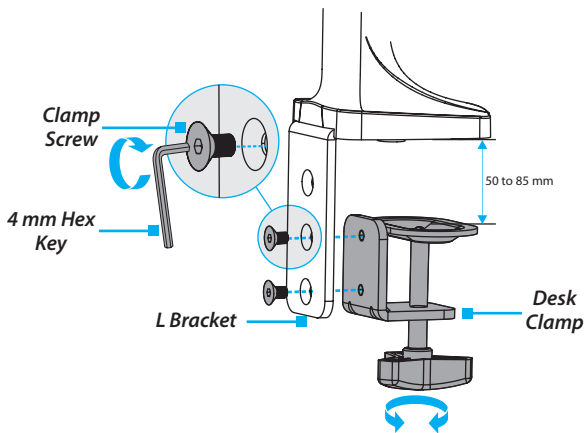

Figure 4
- a. Position the **Desk Clamp (8)** so that the holes on the **Desk Clamp** line up with the bottom two holes in the **L Bracket**.
- c. Use the **4 mm Hex Key** to tighten the **Clamp Screws**. (Figure 4)